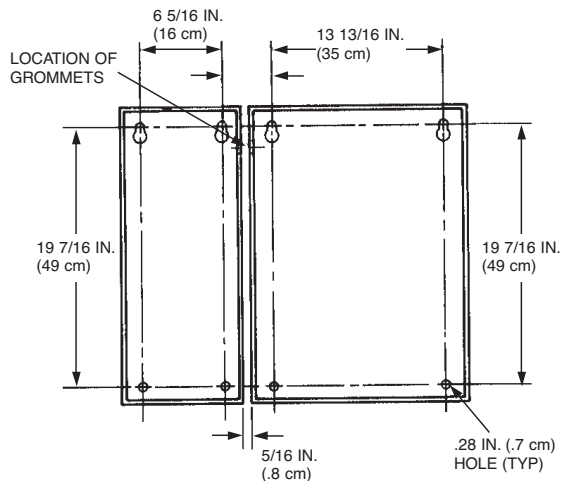

FIGURE 3a
- When mounting a 6-gallon manifolded system (or a 6-gallon individual piped system) it is critical that each mounting box is located as shown in Figure 3a. There must be a 5/16 in. space between each box. Less than 5/16 in. will cause interference with the covers, and more than a 5/16 in. will cause a gap between the two hose grommets which will expose the hose to possible tampering or damage.